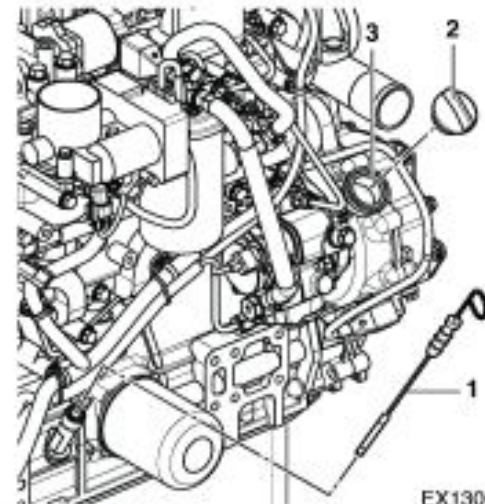

Figure 66
8. Add engine oil (5, Figure 66) as needed until level is between the upper (2, Figure 66) and lower lines (3, Figure 66) shown on the dipstick (1, Figure 66).
9. Install the oil fill cap (4, Figure 66). If any engine oil is spilled, wipe it away with a clean cloth.